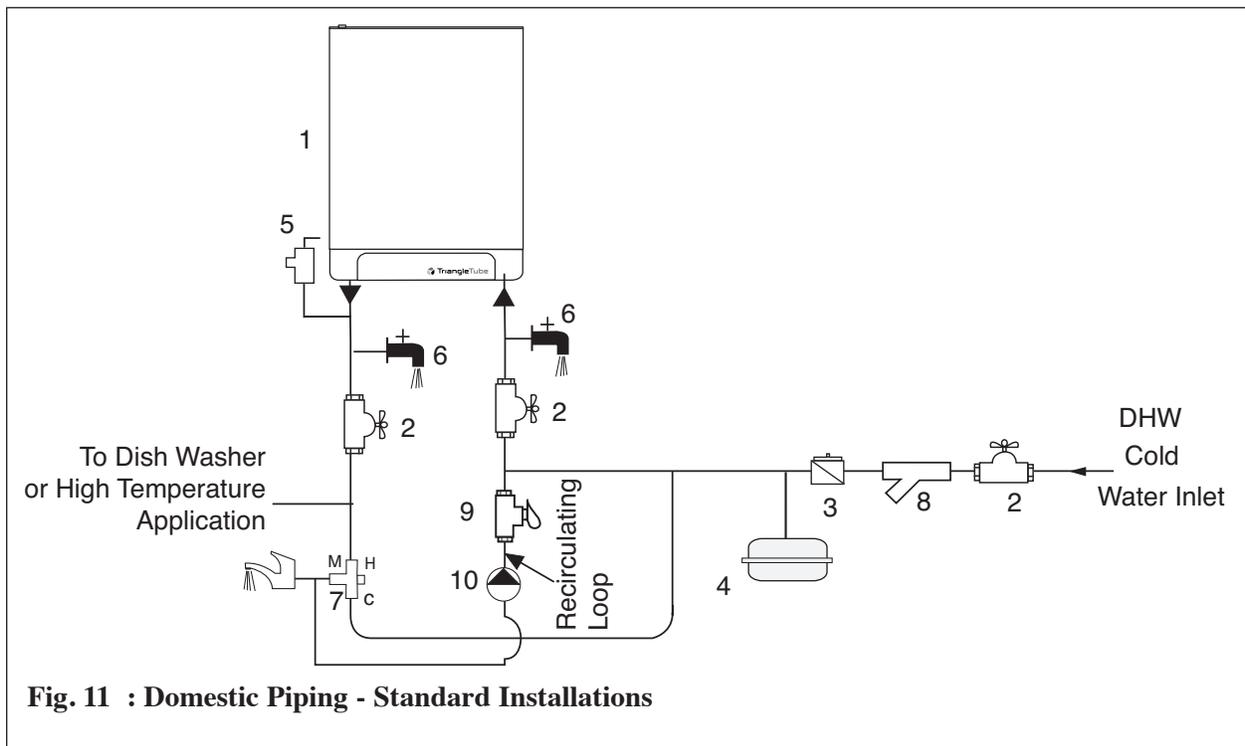

Fig. 11 : Domestic Piping - Standard Installations
1. The CHALLENGER is not supplied with a 150 psi [10 bar] pressure relief valve and must be piped using a PRV connected as shown in Fig. 11 page 26.
- For domestic water piping diagrams, see Figs 11 and 12, pages 26 and 27.
It is recommended to install flush valves as outlined in Fig. 11 and 12, pages 26 and 27 for servicing the domestic coil.
- Recirculation piping if applicable must be installed in the cold water inlet as shown Figs 11 and 12, page 26 and 27.